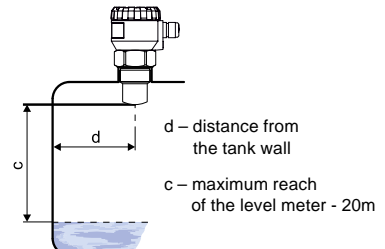

Fig. 3: Installation distance from the tank wall
- The min. dimensional parameters to install the level meter into a lid or a ceiling of a tank are given in Fig. 3.